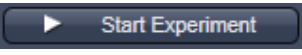

Fig. 23 Channels tool
- Set the **Pinhole** to **1** Airy Unit (Fig. 23).
- When the image is saturated, reduce AOTF transmission in the **Laser** control section of the **Channels Tool** (Fig. 23) using the slider to reduce the intensity of the laser light to the specimen.
- Increase the **Digital Offset** until all blue pixels disappear, and then make it slightly positive (Fig. 23).